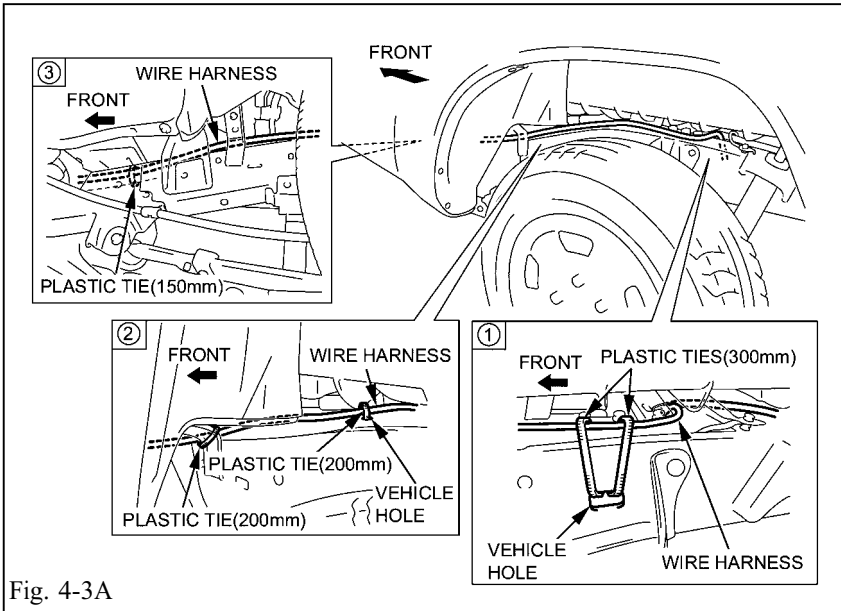
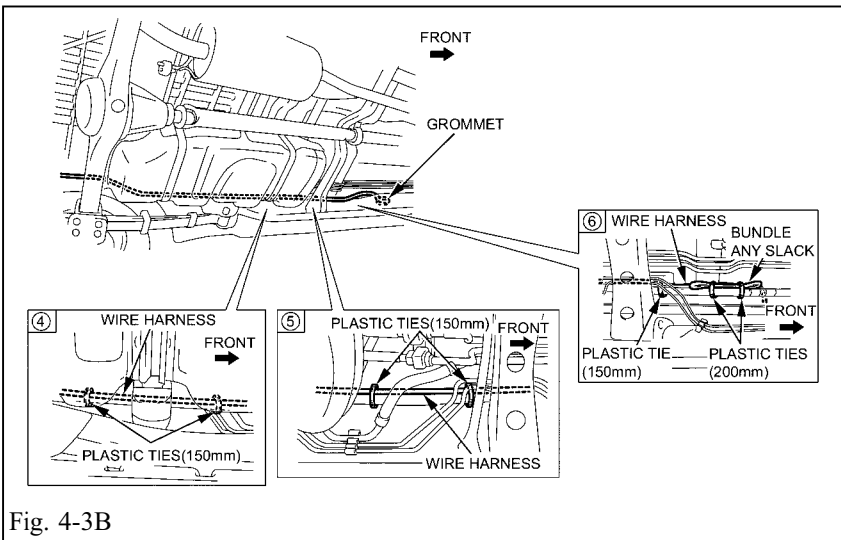

Fig. 4-3A
Fig. 4-3B
- (1) Secure the wire harness so that it does not interfere with the brake pipe, fuel pipe, and others. Use the amount of ties listed in the table below. (Fig. 4-3A) (Fig. 4-3B)